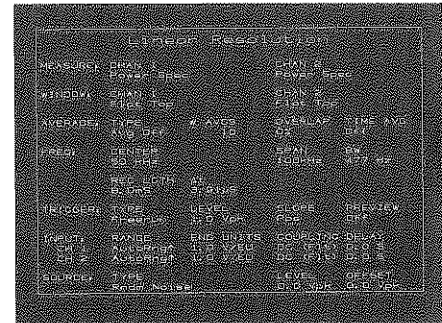

Figure 5-1
1. **Special Preset** Press the green **PRESET** key. Select the **P SPEC LINRES** softkey to activate the preset dc-to-100 kHz power spectrum measurement. The state is shown in Figure 5-1.